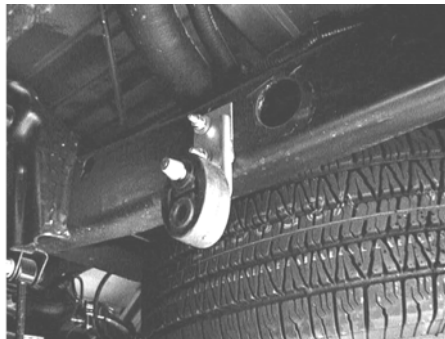

Figure 6
5. Using the hardware provided, install hanger assembly on driver side of vehicle just behind rear tire as shown in figure 6.